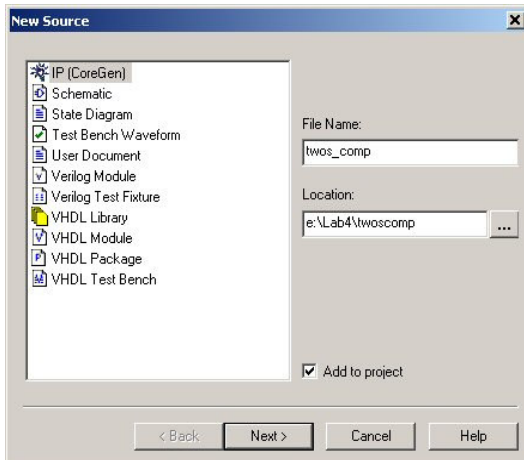

Figure 2: New Source Settings
1. Add new source; Click the **New Source** button. Name your file **twos_comp**. On the left hand side, choose **IP (CoreGen)**. Click **Next**. Refer to Figure 2.